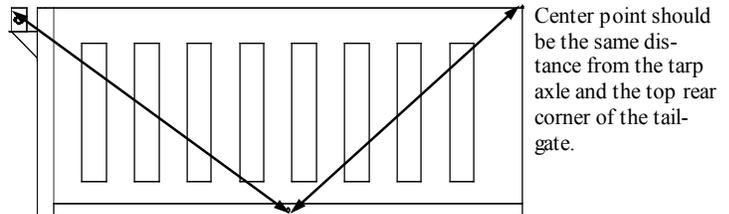

Figure 3
**Finding the placement for the underbody assembly (pivot point).** See Figure 3. Find the center point of the trailer to determine placement for the underbody assembly. Using two tape measures, hook the end of one to the tarp axle and the end of the other to the top rear corner of the tailgate and measure toward the center at the bottom of the trailer. Where the tape measures cross at the same measurement is the center point of the system (Note: pivot point must be at least 3-1/2" from nearest horizontal standard, adjust forward to fall short of tailgate, adjust rearward to fall short of roller box). At the center point, measure up from the bottom of the bottom rail 1-3/4" (or appropriate distance see figure 3a), then cut a hole in the bottom rail with a 1-1/2" hole saw. This is the pivot point of the system.